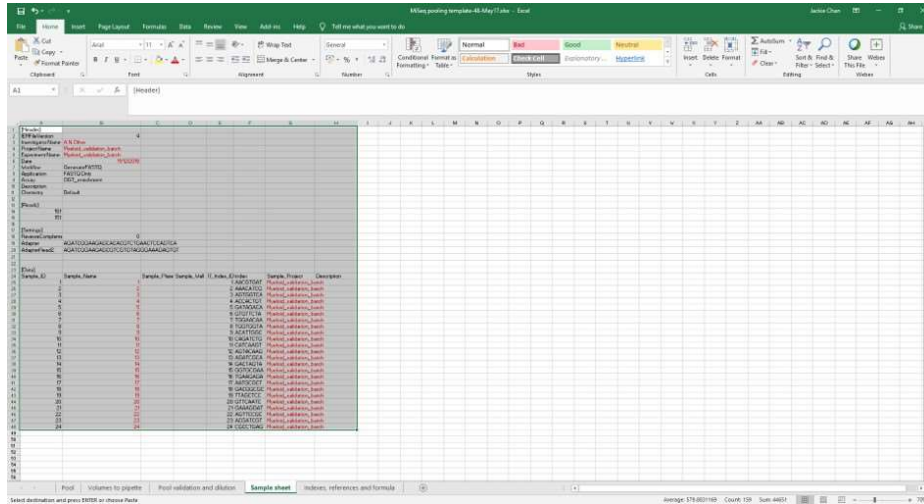

Figure 7. Example SampleSheet on the MiSeq pooling template file.
2. Highlight all cells with text as shown in Figure 7. Adjust the number of rows highlighted as appropriate.